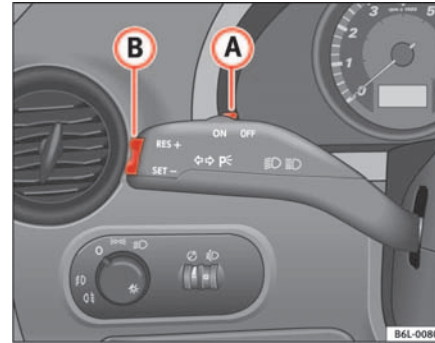

Fig. 101 Turn signal and main beam lever: switch and rocker switch for CCS
- Press the lower part **SET** of the rocker switch ⇒ fig. 101 **A** once briefly when you have reached the speed you wish to set.